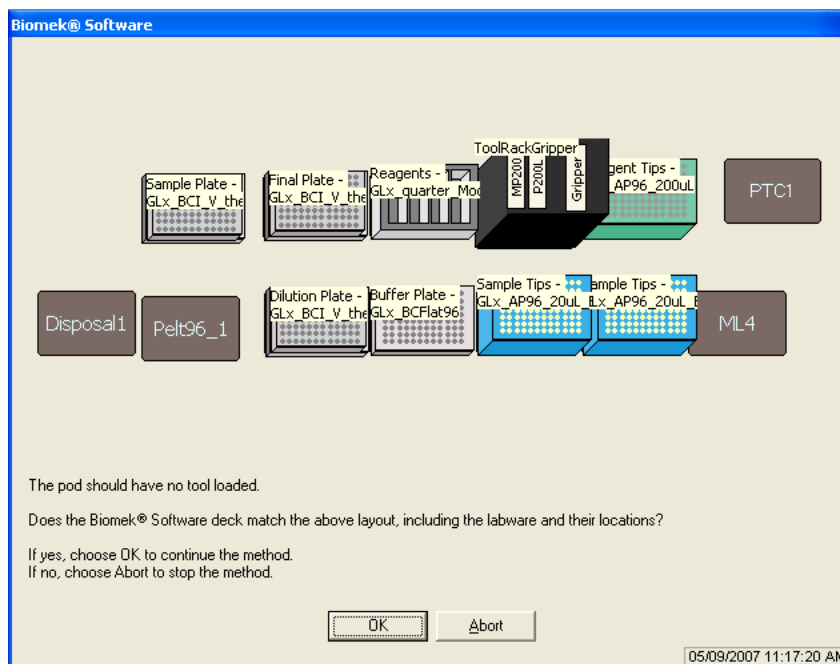

Figure 1-21. Deck confirmation prompt for Reaction Setup method
20. The GeXP splash screen appears, followed by Deck Confirmation (Figure 1-21).